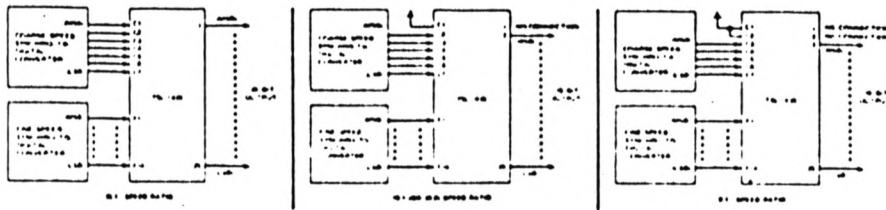

FIGURE 3 Connections for Different Speed Ratios
Figure 3 shows input connections for different speed ratios. Note that for a speed ratio of 18:1 coarse input C1 is grounded and output MSB (180°) is the output labeled 2. For a speed ratio of 36:2, although input and output connections are same as that for 18:1, the MSB output (2) represents 90°. For a speed ratio of 9:1 inputs C1 and C2 are connected to ground and output bit 3 is the MSB (180°). For line speed digital input of less than 14-bits unused LSB inputs must be connected to ground.